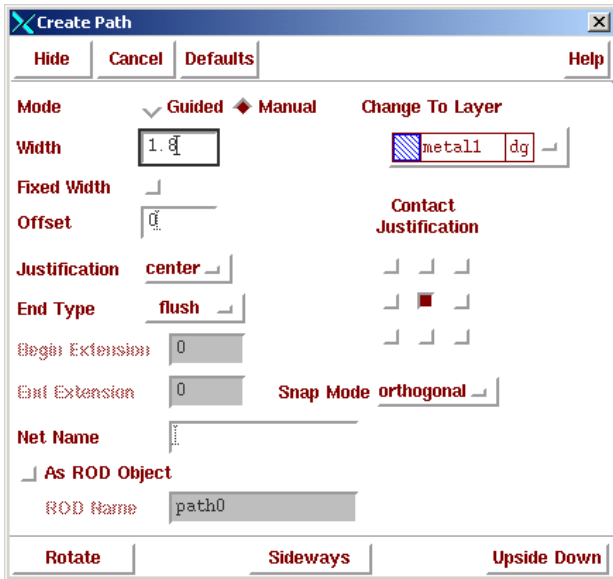

Figure 63: Starting a Path
2. Click on the layout window and press p to start a path. A pop-up like Figure 63 should appear. Change the width to 1.8 as in Figure 63 .